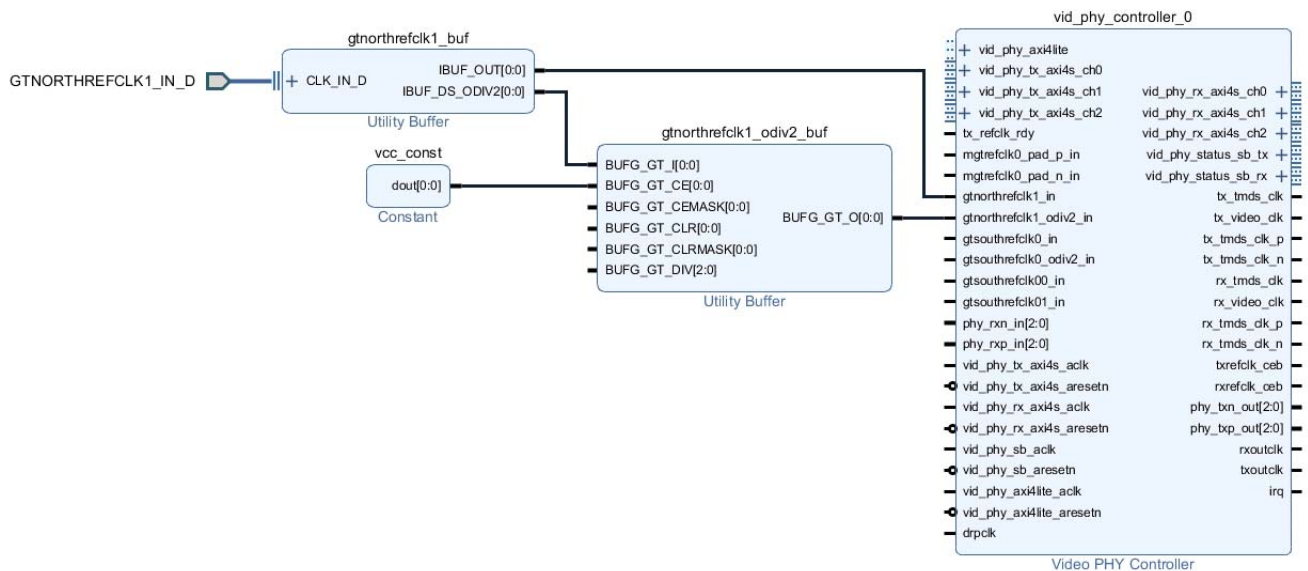

Figure 3-8: North Reference Clock
- gtnorthrefclk1\_in: This port is the GT Channel or CPLL clock and must be connected to the IBUF\_OUT port of the IBUFDSGTE GT input clock buffer. See Figure 3-8.
- gtnorthrefclk1\_odiv2\_in: This port is the fabric clock and must be connected to the BUFG\_GT\_O port of the BUFG\_GT buffer which is being driven by the IBUF\_DS\_ODIV2 output of IBUFDSGTE GT input clock buffer. See Figure 3-8.